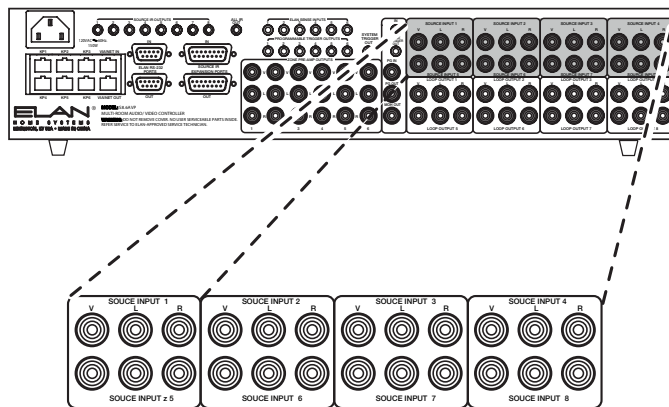

Figure 1-15. Source Audio/Video Inputs
Connect up to eight A/V sources using Source Input 1 through Source Input 8 (8) (see **Figure 1-15**).